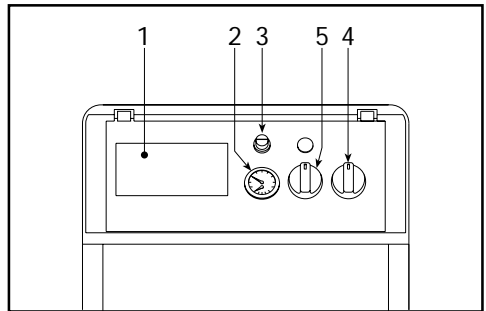

Fig. 1
Regulating thermostat, manual resetting 3 (fig. 1)
Central thermostat 5 (fig. 1)
- 3) Give electric power to the boiler and switch on the main switch 4 (fig. 1) on the boiler control panel.